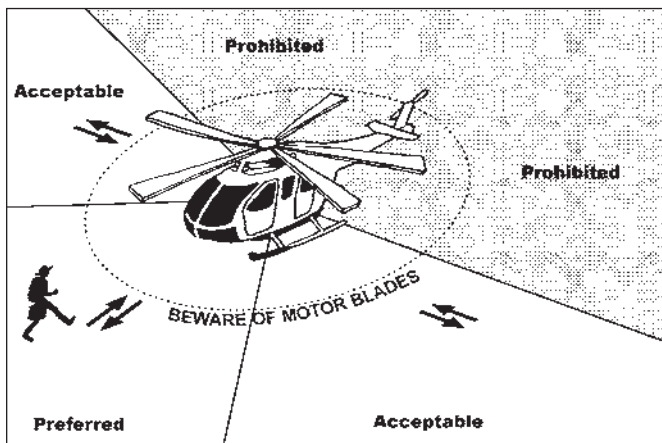

Figure 2: Approaching or leaving a helicopter
- Always approach a helicopter and leave a helicopter from the downhill side in a semi-crouched position and in full view of the pilot. Only approach from the front after the pilot has seen and acknowledged you. Walk - never run. (**Figures 2,3**)